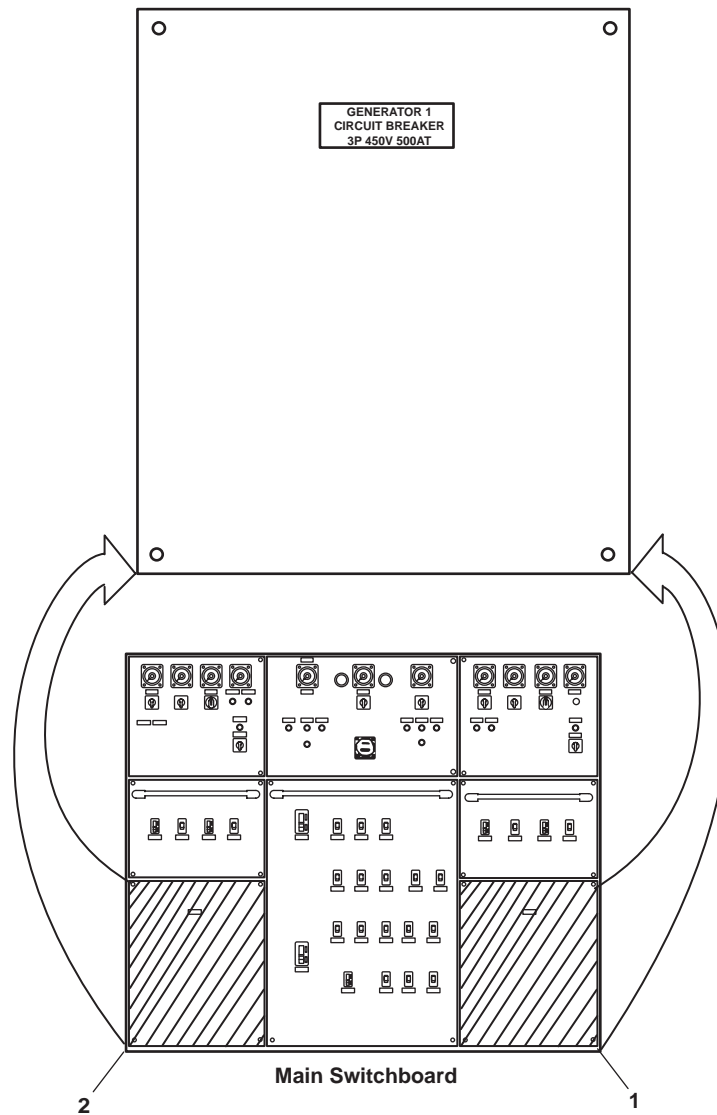

Figure 2. SSDG 1 and SSDG 2 Circuit Breaker Location
1. Refer to WP 0221 00 for removal and installation procedures for the ship service diesel generator 1 (SSDG 1) circuit breaker (figure 2, item 1) and/or SSDG 2 circuit breaker (figure 2, item 2).